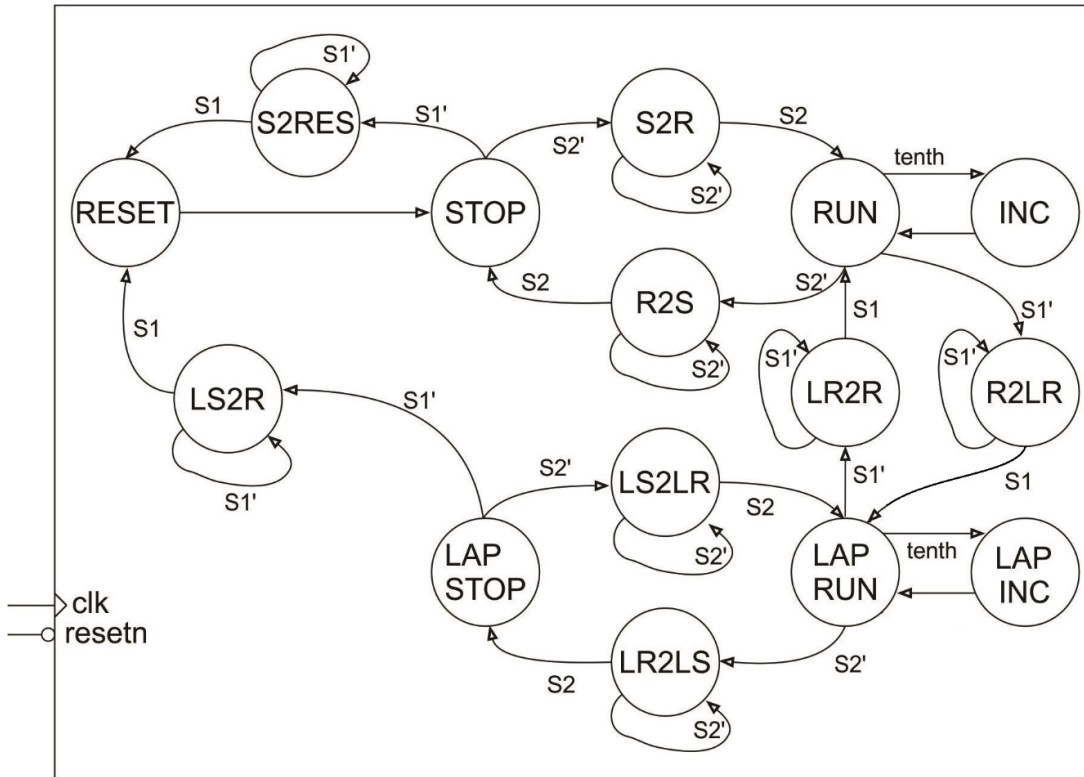
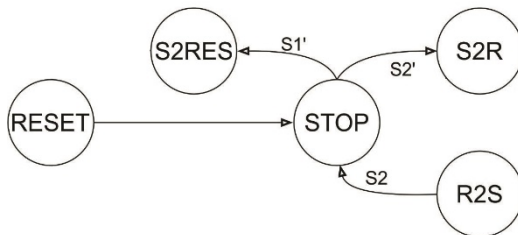
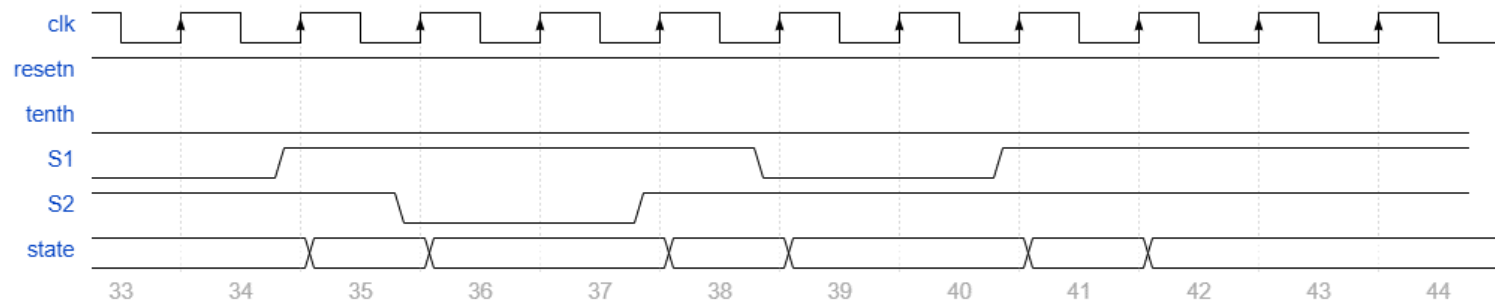

Figure 10.3: The control unit for the stopwatch needs to account for the time the user holds the button down.
Figure 10.5: All the states and with a transition arc connected to the STOP state.
Figure 10.6: Timing diagram for the testbench for the testbench simulation
The state diagram for the stopwatch is shown in Figure 10.3. The arcs between states are labeled with a Boolean condition, which when true, causes the FSM to make that transition. So for example, if the FSM is in the RUN state and the S2 button is pressed (buttons output 0 when pressed hence the arc labeled S2'), the FSM will transition to the R2S state (and stay there as long as the button is held down). When a number "2" appears in the middle of a state
Table 10.1: Control word table for the stopwatch finite state machine shown in Figure 10.3.
- Next state logic – This is an always/case statement that has one case for each state. It embodies the logic in Figure 10.3 using if/then statements. Let's redraw Figure 10.3 by focusing on the states connected to the STOP state by transition arcs in Figure 10.5.
The next state logic for the STOP state embodies the 2 transition arcs leaving the STOP state in Figure 10.5. If the FSM is in the STOP state and the S1 input equals 1 then the FSM should go to the S2RES state. This logic and the transition to the state S2R is provided in the following code snippet. You must specify every possible next state, even when the next state does not change. Thus, I prefer to use a case statement and leave the default case to be when the next state is equal to the current state.
This lab will terminate with an extensive simulation of the stopwatch to uncover as many bugs as possible. Errors are much, much easier to find in a simulation. The goal of this simulation is to cover every transition arc in Figure 10.3 so that you can be sure your code is working correct.
The timing diagrams shown in Figure 10.6 show the tenths, S1 and S2 signals as they are manipulated by the testbench. These signals will affect the state of the control unit according to Figure 10.3. Your task is to use these signals to determine what the state the control unit is in.
The goal of the testbench was to cover every transition arc in Figure 10.3. This goal was not achieved; one transition arc was not taken in the testbench, which one was it?
Run the entire simulation and compare the simulation output to Figure 10.6. Use the results of the simulation to either correct Figure 10.6 or to correct your controlUnit.v code.
- Completed Figure 10.6.